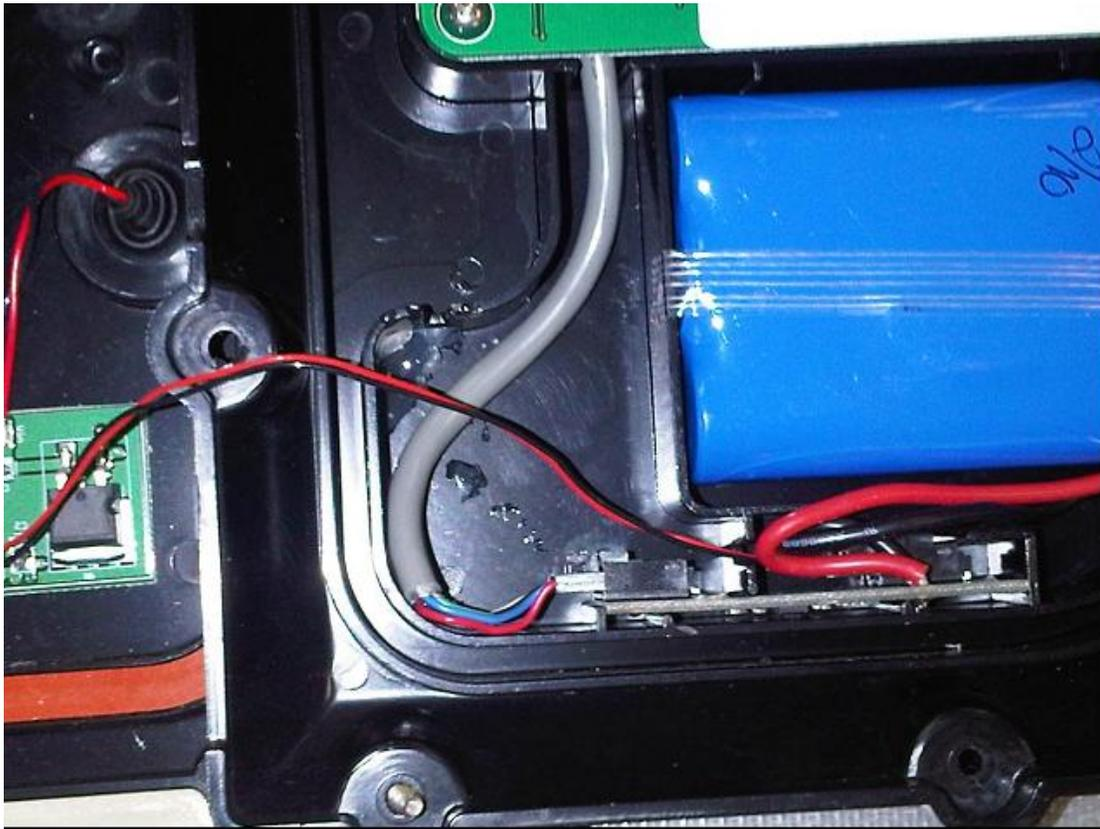

Figure 6.5.4
- 6.5.4. Disconnect the connector P2 from the receptacle J2 of the battery CCA Then disconnect P1 Connector wiring from the Battery CCA reference Figure 6.5.4